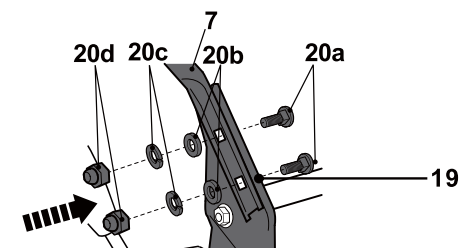

Fig. 4
6. Fix the lower handle bar (7) with the mounting sets (20) to the handle supports (19) (Fig. 4).